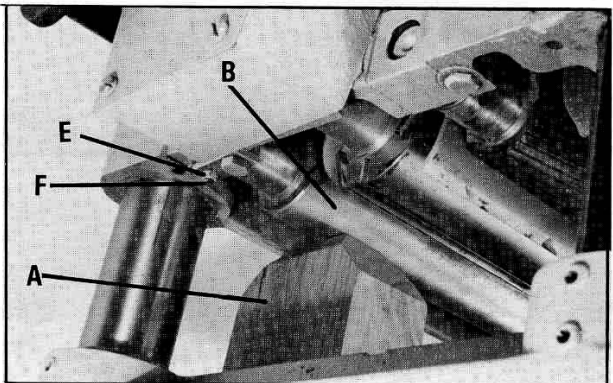

Fig. 53
4. Move the gage block (A) Fig. 53, under one end of the outfeed roll (B) as shown. The bottom of the outfeed roll (B) should just touch the top of the gage block (A). If an adjustment to the outfeed roll is necessary, loosen locknut (E) and turn screw (F) until the feed roll just touches the gage block. Then tighten locknut (E) Fig. 53.